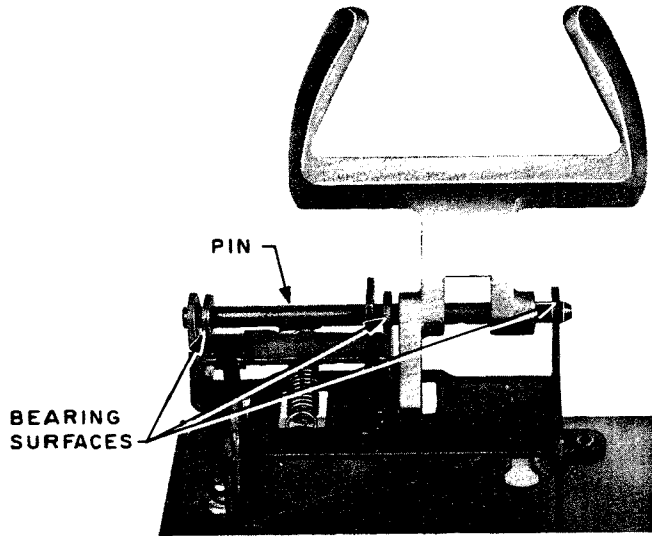

Fig. 9 - Switchhook Assembly
8.05 Lubricate bearing surfaces with No. 2 or softer graphite pencil. (See Fig. 9.)